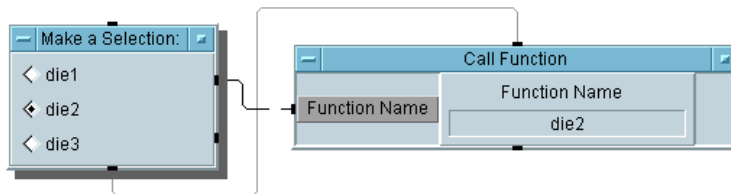

Figure 8-20. The Dice Program (Detail View)
10. Click `Device` ⇒ `Call`. Select `Add Terminal` ⇒ `Control Input`, then select `Function Name`, and click **OK**. The `Function Name` control pin accepts an `Enum` or `Text` value as input. Connect the `Radio Buttons` data output pin to the `Function Name` input terminal on the `Call Function` object. Connect the `Radio Buttons` sequence out pin to the sequence in pin of `Call Function`. Click on `die2` in `Make a Selection:` and notice that the `Call Function` Name changes to `die2`, as shown in Figure 8-20.